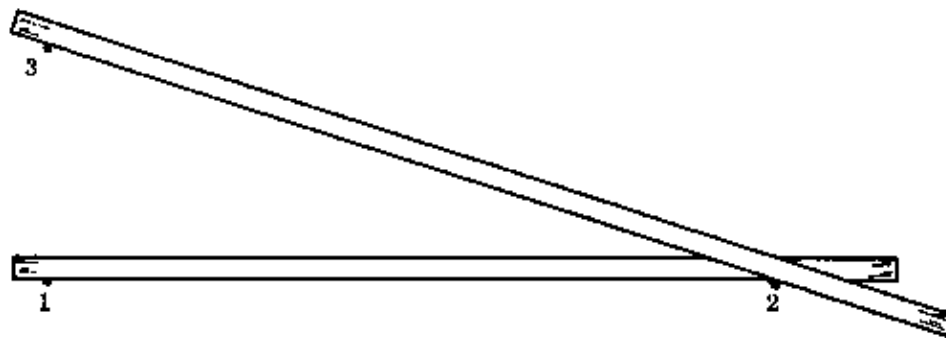

Fig. 2
- d. Lay the hip tie beam against pegs 1 and 2 (Fig. 2)
- e. Lay the hip rafter against pegs 2 and 3 (Fig. 2). Make sure that the tie beam and rafter are correctly positioned with respect to the pegs.